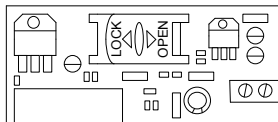

Fig. 3.
- 7) Carefully slide the SIM holder door in the OPEN direction as shown in Fig 3. Slide the SIM card into the holder, and close the door, sliding it in the LOCK position.